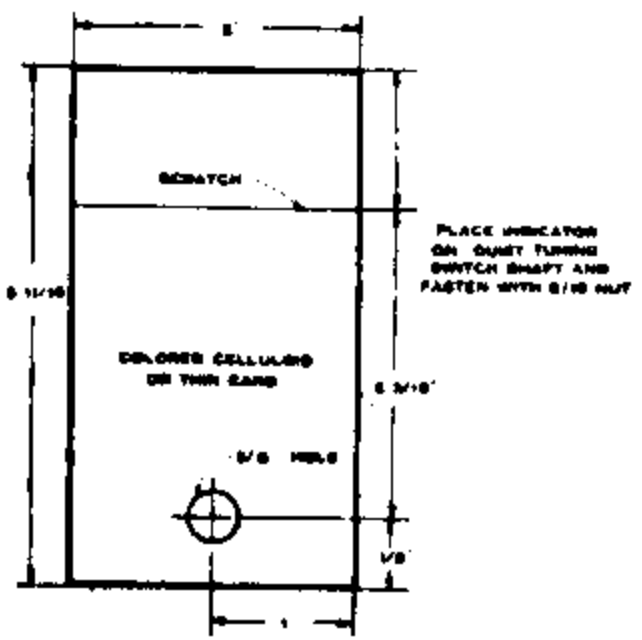

Fig. 9—Dial Indicator
- (d) Place a dial indicator as illustrated in Figure 9 on the receiver assembly.